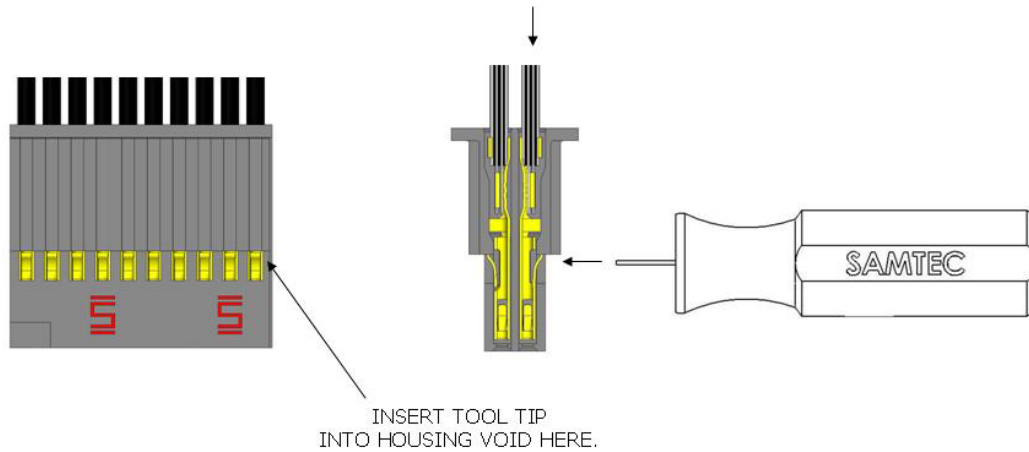

FIGURE 2
The Micro Mate contact has a retaining lance that can be released through an access cavity located on the top and bottom of the housing as shown in **Figure 2**. The Extraction Tool is inserted into the cavity to depress the lance the correct amount for contact removal.
2. From the top or bottom of the housing insert the Extraction Tool into the lance cavity as shown in **Figure 2**. This is typical for all contacts.